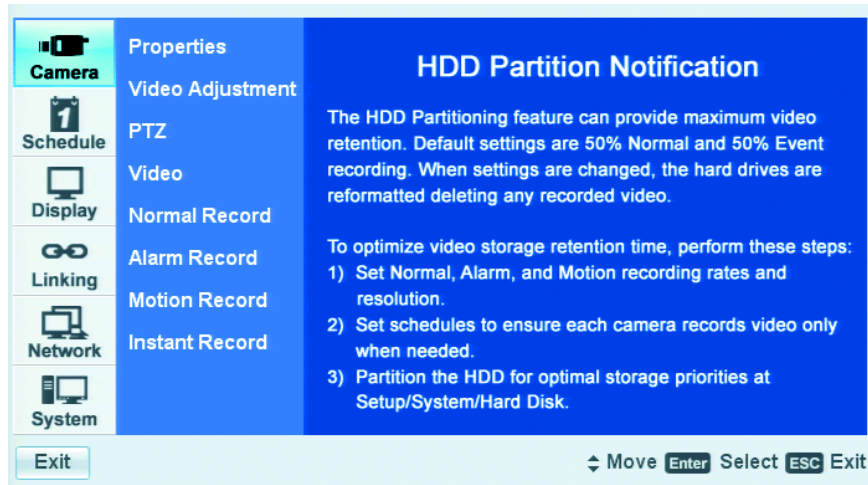

Figure 10. Camera Menu HDD Partition Notification
**WARNING:** Before you use the DX4500/DX4600 to record video, refer to Figure 10 and read the HDD Partition Notification.